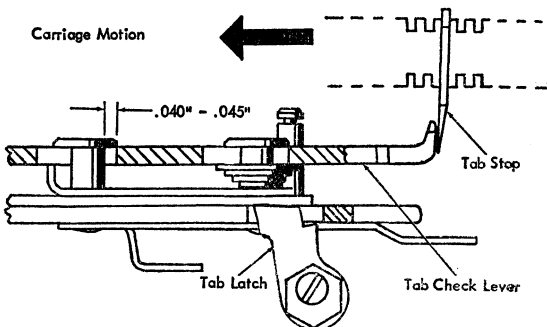

Figure 24. Tab Latch Adjustment
6. TAB-LATCH. Form the tab-latch, at the point of contact with the tab check-lever, so the tab unlatches when the tab check-lever is .040" to .045" from its full left-hand position (Figure 24.)